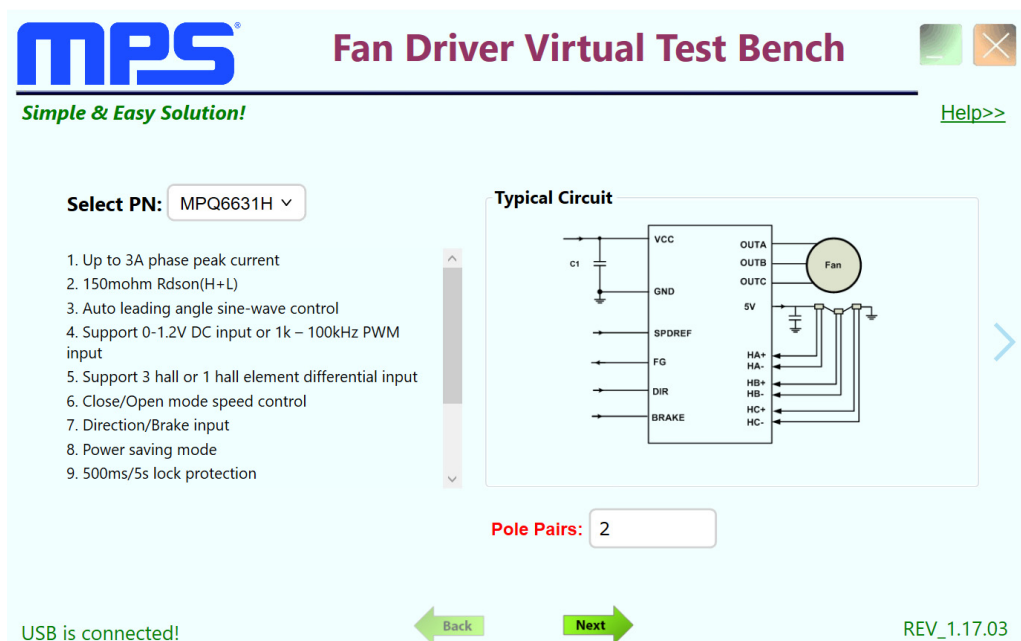

Figure 7: Fan Driver Virtual Test Bench
1. Double click “MPQ6631H.exe” to start the GUI. The first page of GUI should show the features and typical application circuit (see Figure 7).